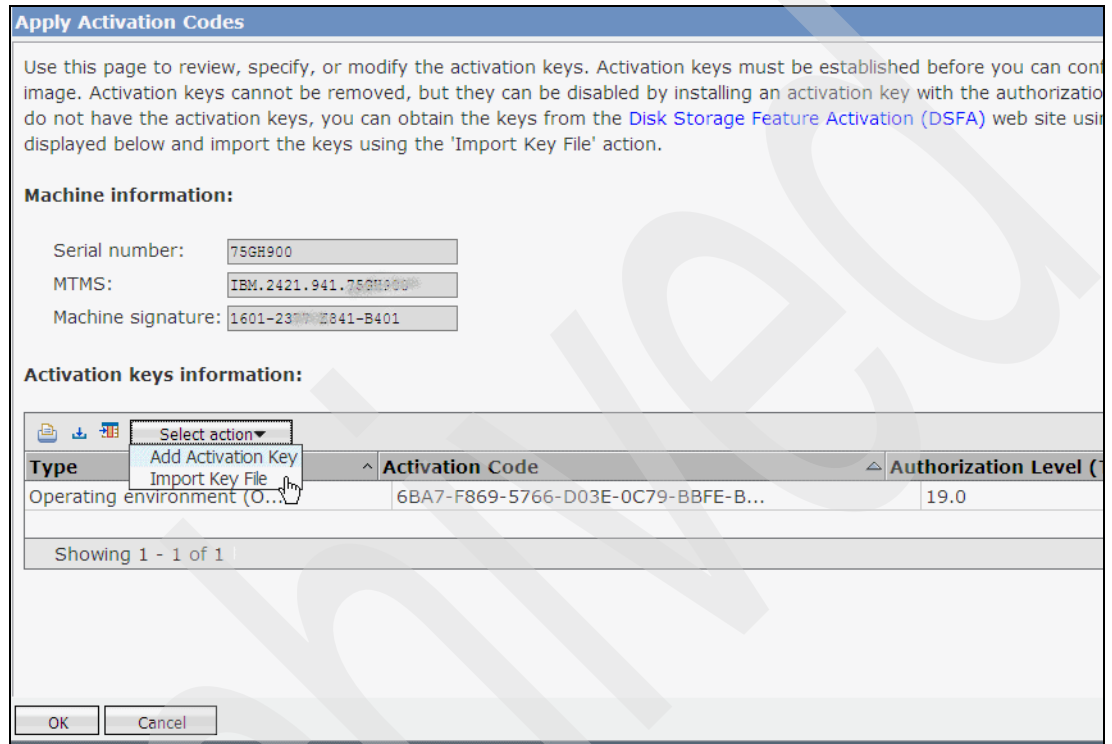

Figure 10-11 Apply Activation Codes window
- The Apply Activation Codes window opens (Figure 10-11). If this is the first time that you are applying the activation codes, the fields in the window are empty. In our example, there is only a 19 TB Operating Environment License (OEL) for FB volumes. You have an option to manually add an activation key by selecting **Add Activation Key** from the drop-down Select action menu. The other option is to select **Import Key File**, which you use when you downloaded a file with the activation key from the IBM DSFA site, as explained in 10.2.2, "Obtaining activation codes" on page 241.